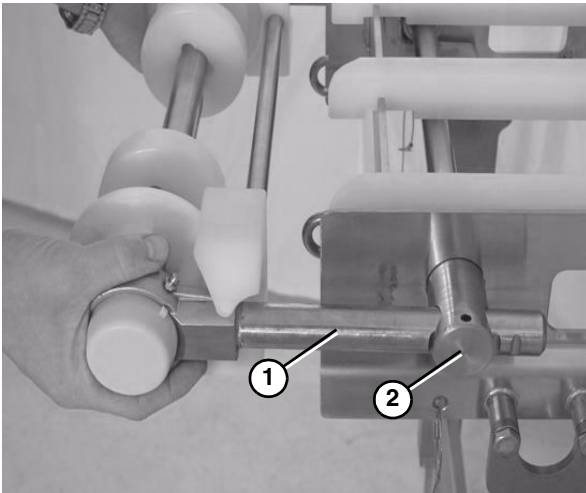

Figure 65
2. Slide the idler tail assembly (Figure 65, item 1) out of the take up blocks (Figure 65, item 2).